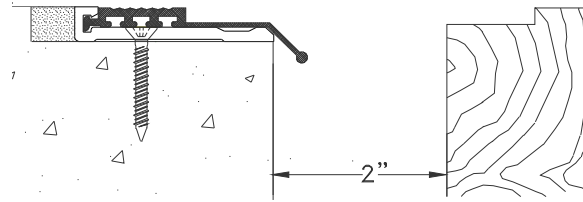

Figure 8
STEP 10. Select a vinyl filler strip, and place the vinyl filler strip into its installed position on the base member. Trim the vinyl filler strip to the correct length for the joint cover system. Slide the filler strip's continuous tab into the base member's receiving channel (see Figure 8) continuously along the base member.